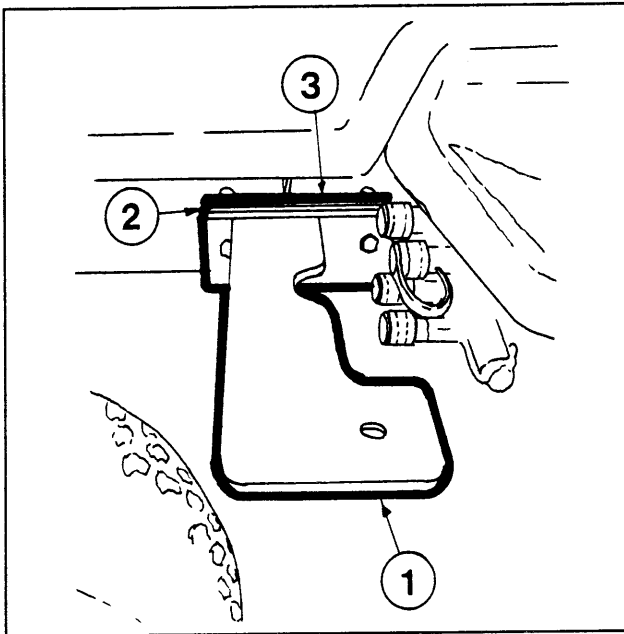

Figure 1
3. Take the left front bracket (1), front bracket spacer (2), and mid-mount mower stop (3) removed in step 2. Position them against the two-hole bolt pattern in step 2. Bolt the bracket, spacer, and stop to the unit's frame using the $\frac{1}{2}$ "x2" hex bolts, hex nuts, and lockwashers supplied (see Figure 1).